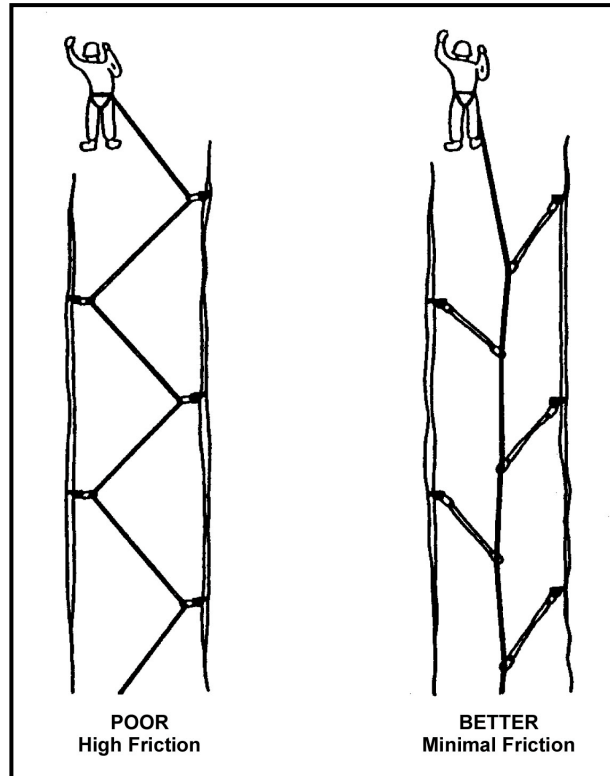

Figure 6-30. Use of slings on protection.
(3) **Reducing Rope Drag; Using Runners.** No matter how direct the route, the climber will often encounter problems with “rope drag” through the protection positions. The friction created by rope drag will increase to some degree every time the rope passes through a carabiner, or anchor. It will increase dramatically if the rope begins to “zigzag” as it travels through the carabiners. To prevent this, the placements should be positioned so the rope creates a smooth, almost straight line as it passes through the carabiners (Figure 6-30). Minimal rope drag is an inconvenience; severe rope drag may actually pull the climber off balance, inducing a fall.